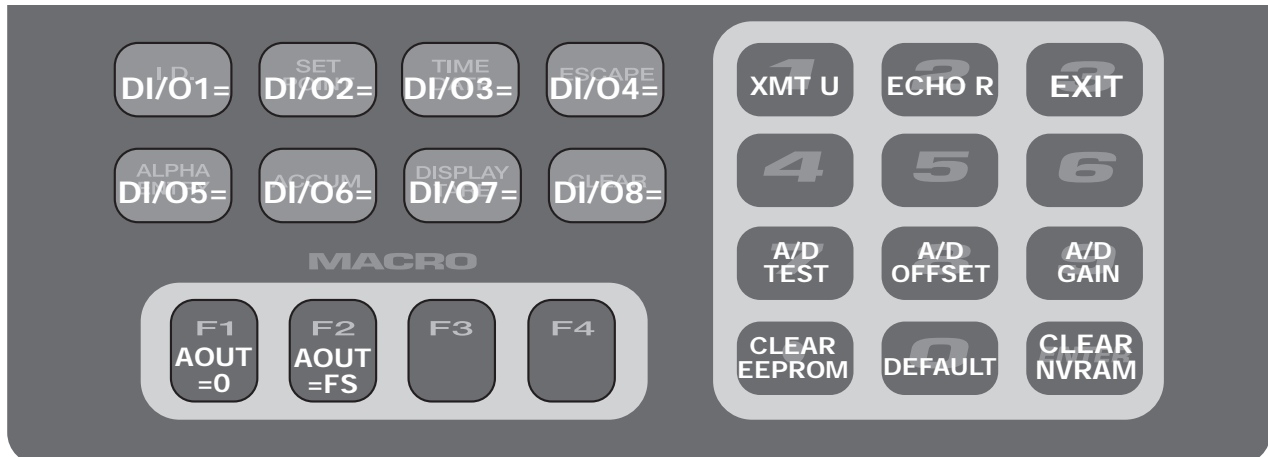

Figure 10-6. Front Panel Key Functions in Test Mode
To enter test mode, press and hold the setup switch until the front panel display shows the word *TEST*. In test mode, the front panel keys are mapped to the test mode functions as shown in Figure 10-6 and Table 10-6 on page 68.
DI/O1 —DI/O8	Set digital output x high and display status of digital input x Press and hold DI/Ox= key (see Figure 10-6) to show status of DIGINx (Dlx=HI or Dlx=LO).
13. Press the ENTER key and the setup switch at the same time to clear non-volatile RAM. (See Figure 10-6 on page 68 for test mode keypad functions.)